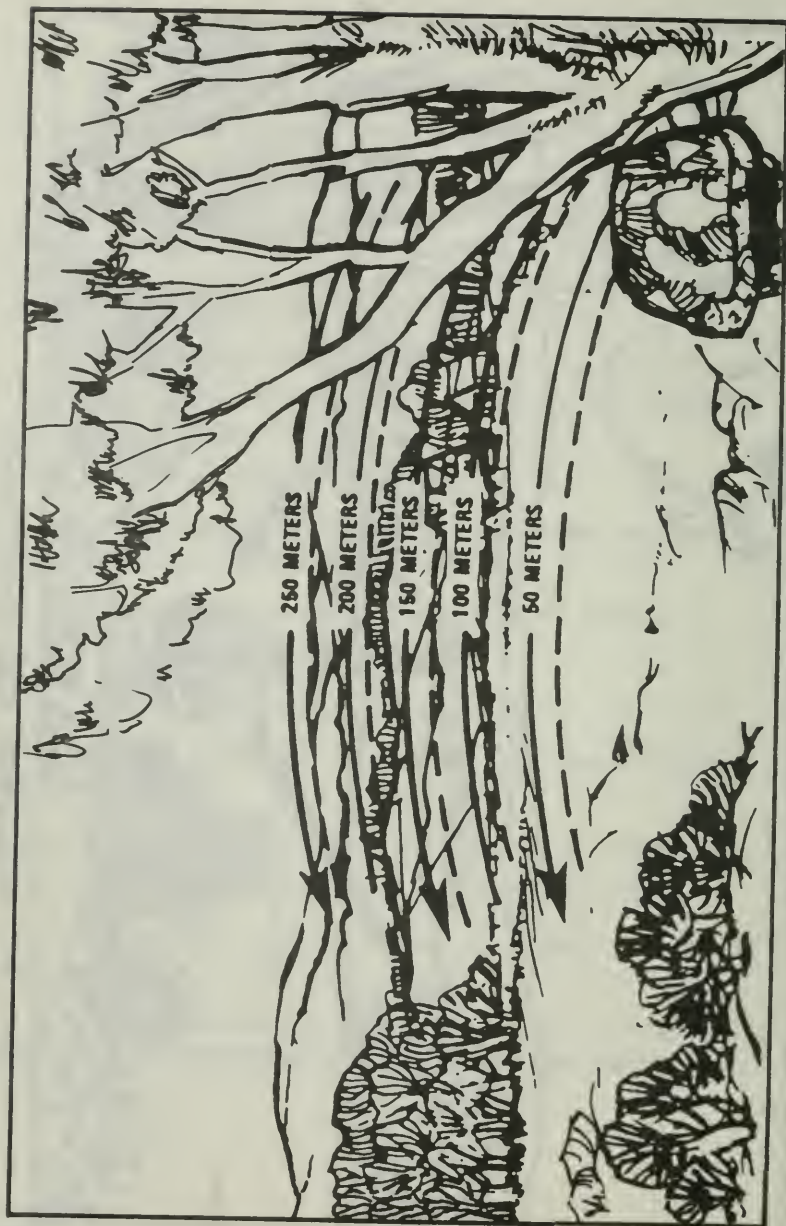

Figure 230. Overlapping strip search.
- b. Observe by overlapping, 50-meter-deep strips of terrain in detail, alternatively searching left to right, right to left (Figure 230).